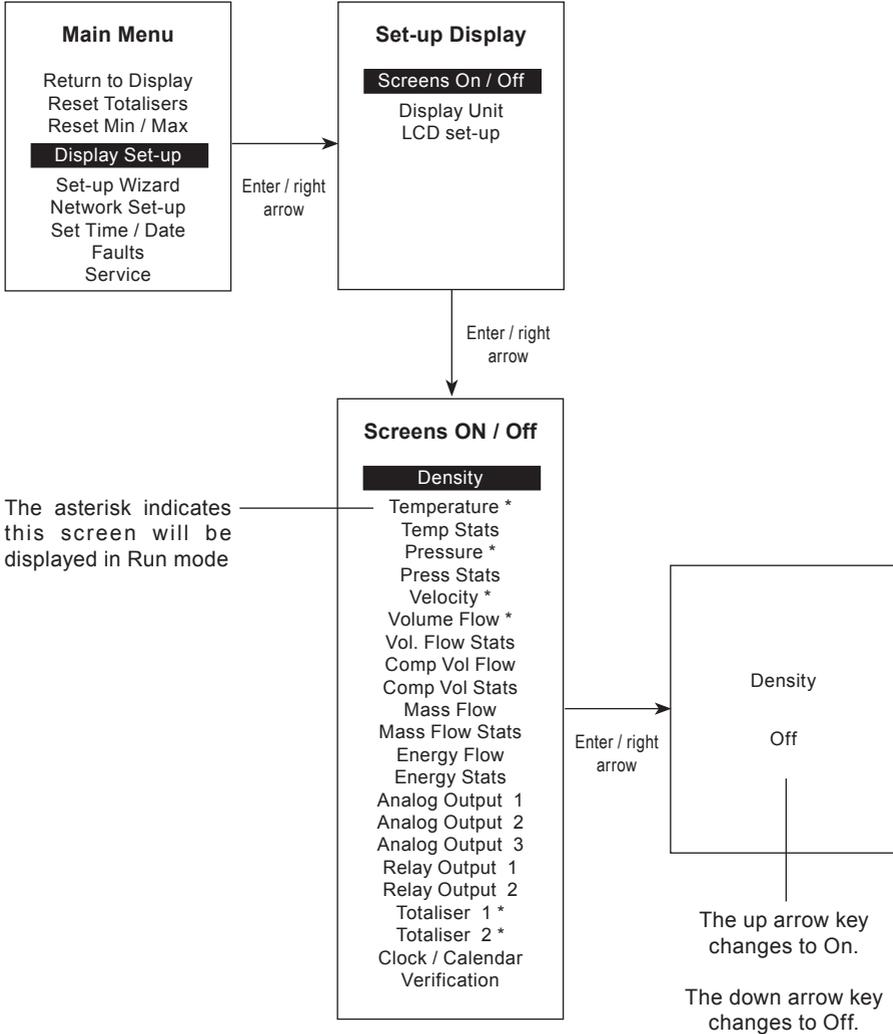

Fig. 39
5.8 Display set-up (screen selection menu) - Figure 39